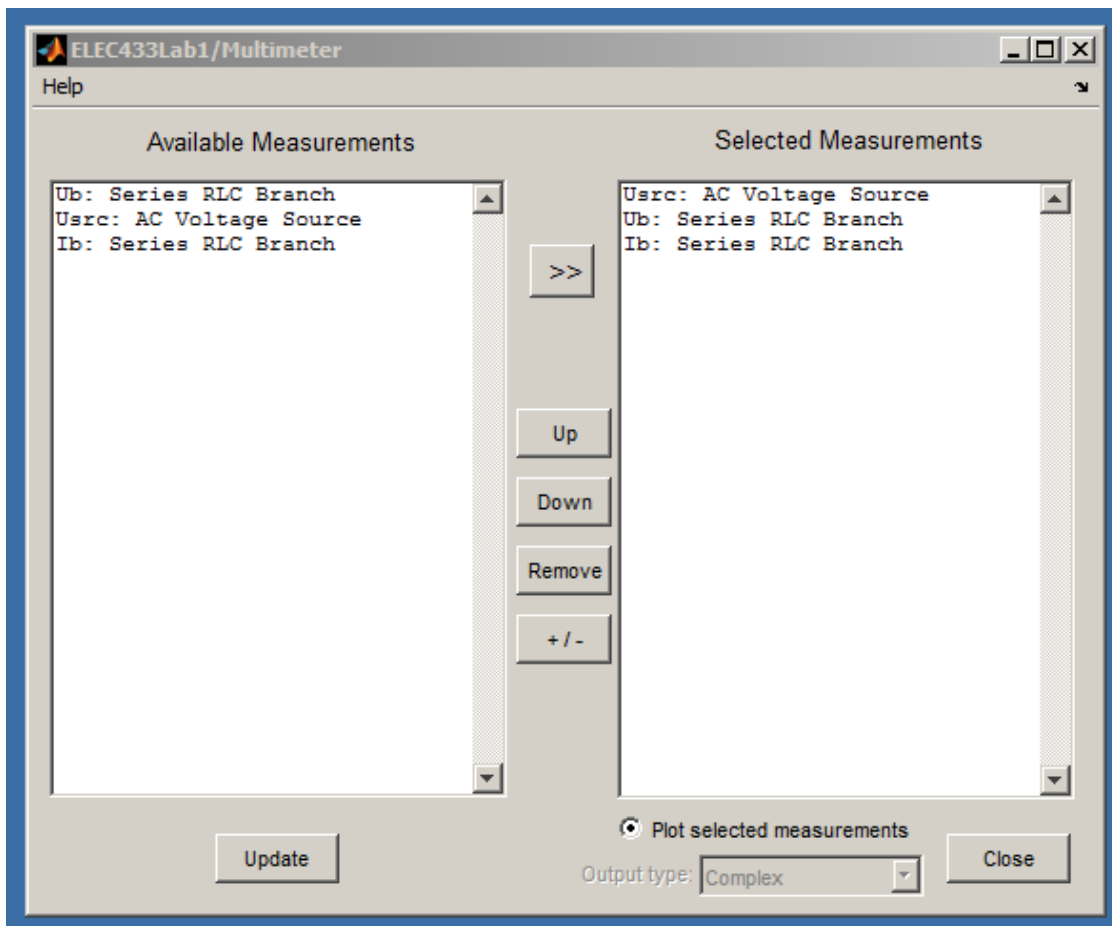

Figure 12. The Multimeter setup window.
9. **Power GUI.** Click on the component and in the dialogue box that opens, set the following parameters: The first menu item is the **Configure Parameters** block shown in Fig. 12. Set the Solver to continuous. In the Analysis Tools section use the **Steady-State Voltages and Currents** tool and **check States, Measurements, Sources and Non-Linear Elements**. The FFT Analysis tool is useful since it will provide information about the characteristics of the non-linear waveforms. Click on the Apply and OK